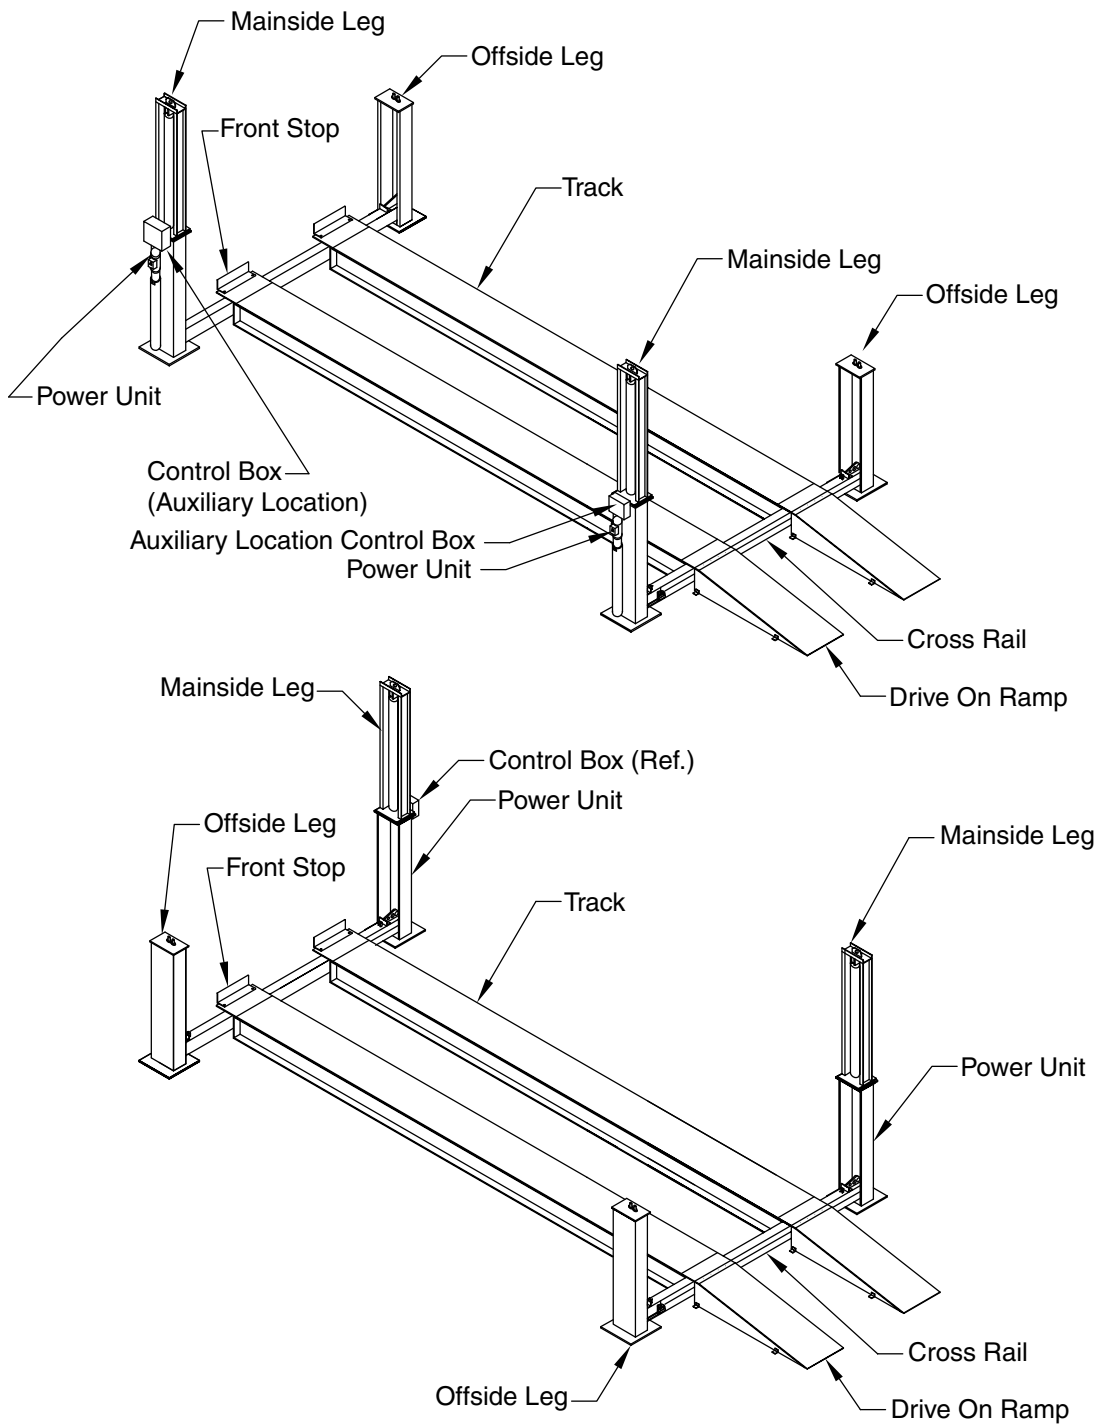
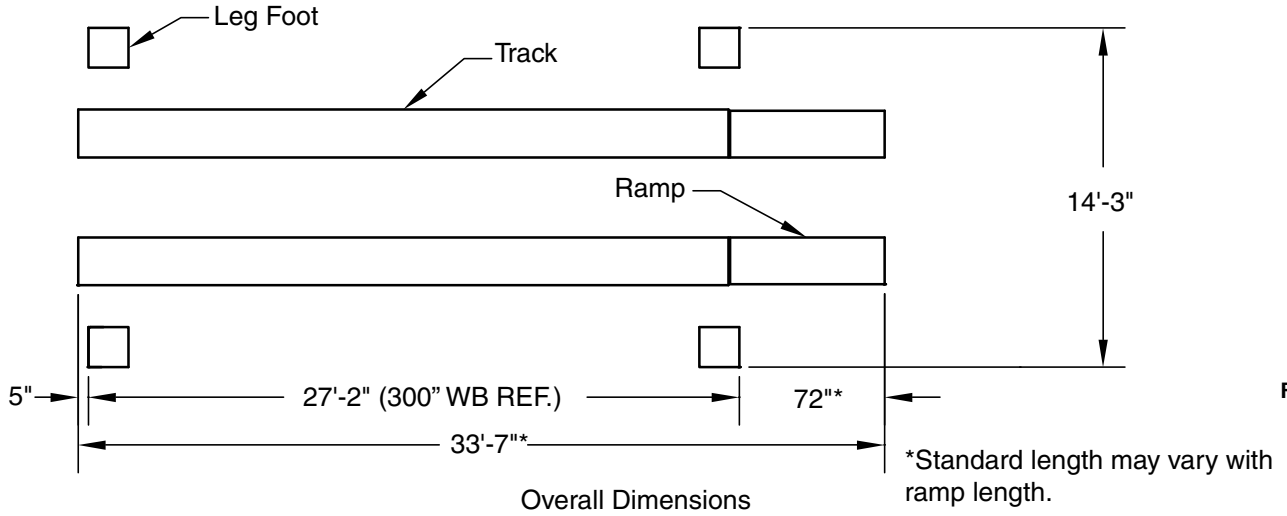
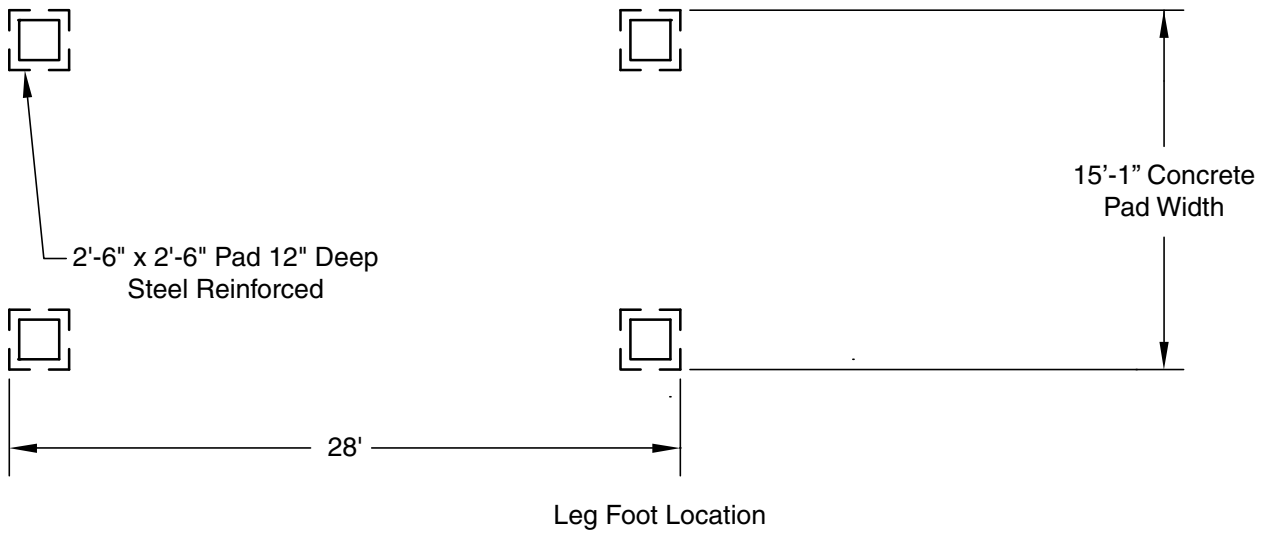

Fig. 1
Fig. 2
Fig. 3
- A. Determine the location for the lift installation. This lift can be used with the main side legs, which hold the cylinders and power units, positioned at either side as shown in Fig. 1. The operator with the controls will stand on the mainside of the lift, between the two legs. For this reason, the mainside of the lift should be positioned away from any walls or obstructions. Fig. 2 gives the overall standard dimensions of the lift, including the drive on ramps. The overall dimensions may vary due to ramp length. The area must be level and there must be free access to load and unload the vehicles. There must be enough overhead clearance to raise vehicles 6 feet above the floor. The floor must be concrete with a minimum thickness of 5 inches and steel reinforced per commercial practice. If pads are used, they must be 2'-6" square with a minimum thickness of 18 inches and steel reinforced per commercial practice. Fig. 3 gives the pad layout dimensions.
- B. Refer to Fig. 3 to get the dimensions for the leg foot locations. Refer to Fig. 2 to determine where to locate the sides and ends of the leg foot rectangle with respect to walls and other obstacles at the installation. Include additional clearance where required near walls and obstacles.
- D. Mark on one of the two parallel lines the Points 1 and 2 to establish the ends of the leg foot rectangle as determined from Figures 2 and 3. From points 1 and 2 measure diagonally to the opposite parallel line to determine points 3 and 4. Draw a chalk line between points 1 and 4 and points 2 and 3. The four lines locate the four outside corners of the leg foot rectangle.
- E. Stand at the end of the rectangle which will be drive on entrance to the lift. As you face the way the vehicles will enter the lift, the side you want the power units on will be the Mainside of the lift. This side will be where the mainside legs, cylinder mounts, and power units will be located. The end opposite you is the front, where the front of the vehicles stop. The end where you are is the back of the lift, where the drive on ramps are installed, Fig. 1.
- F. Position the two mainside and the two offside legs as shown in Figure 1. Make sure that the legs are positioned correctly and square with the installation location.
- A. Prepare to position crossrails in their approximate locations as shown in Figure 1. The cylinder connector must be at the mainside leg locations. The safety latch release levers must be to the outside of the lift and at the mainside leg side, Fig. 6.
- A. Remove the cover of the electrical control box. If the lift has the mainside legs on the left as shown on the top of Fig. 1, attach the box to the top two holes of the top mounting bracket on the back of the rear main side leg. If the mainside legs are on the right as shown on the bottom of Figure 1, attach the box on the front mainside leg. Use two 5/16" x 1" bolts with two nylon insert nuts. Refer to Fig. 9. Mount the short cabled lowering valve coil on the post of the lowering valve assembly on the power unit below the control box. Secure with the nut on the post. Mount the long cabled lowering valve coil to the valve assembly on the power unit on the front mainside leg. Replace the cover.